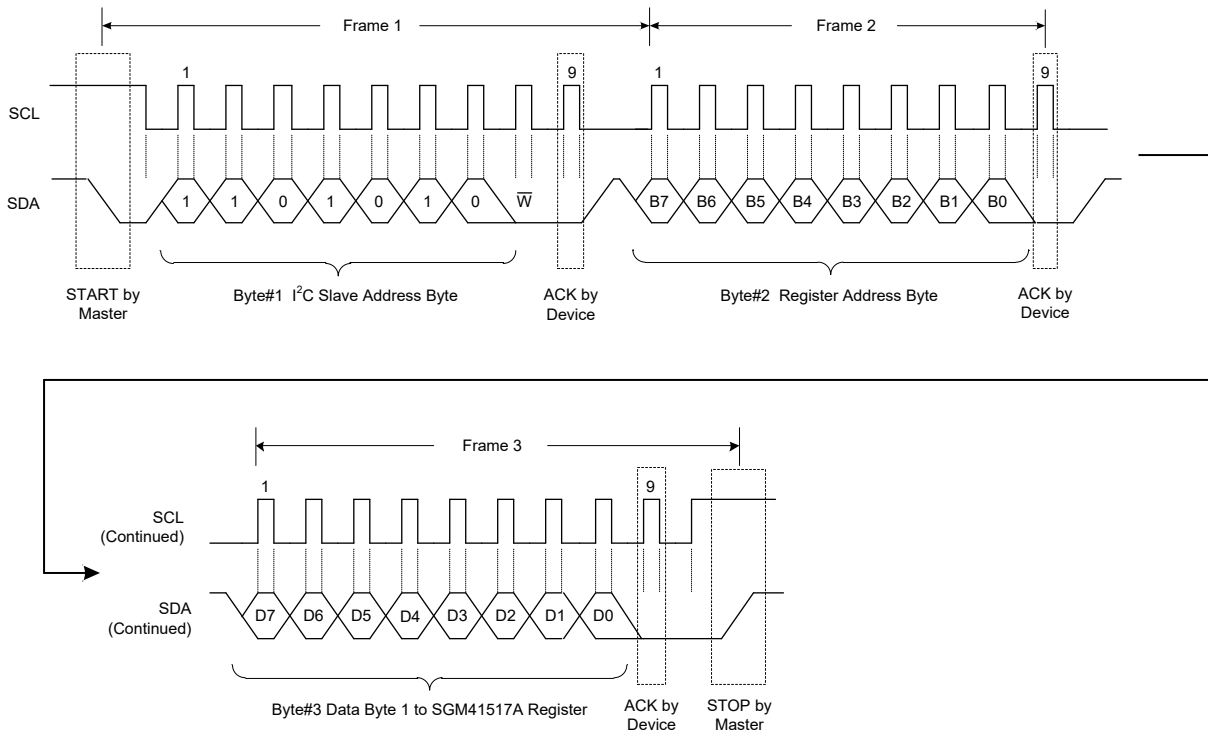

Figure 11. A Single Write Transaction
**WRITE:** If the master wants to write in the register, the third byte can be written directly as shown in Figure 11 for a single write data transfer. After receiving the ACK, master may issue a STOP condition to end the transaction or send the next register data, which will be written to the next address in a slave as multi-write. A STOP is needed after sending the last data.